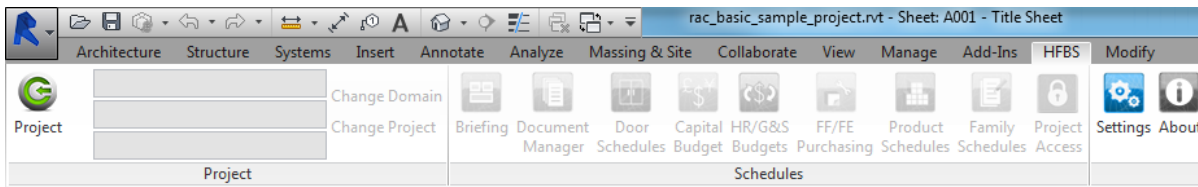

Figure 5 HFBS ribbon - Open a project using the *Project* button.
4. From the *HFBS* ribbon, select the *Project* button (see Figure 5).